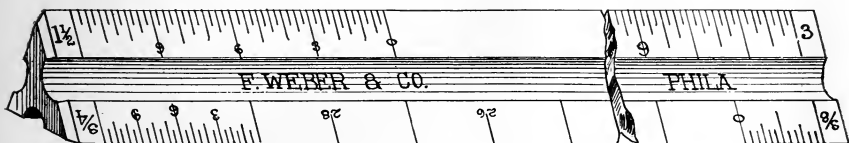

Fig. 22. Triangular Boxwood Scale.
2. SCALES OF DRAWINGS. It is not practical generally to lay out an object to actual dimensions on a sheet of paper of convenient size. Therefore, the object is drawn smaller, say $\frac{1}{2}$, $\frac{1}{4}$ or $\frac{1}{16}$ of the actual size. In order to save time, use is made of a scale, such as shown in Fig. 22, where the lengths are shown to the reduced size. The triangular scale shown has six faces and different scales are marked on each of them.
4. USE OF SCALES. It will be noted that at the end of each face of scale, Fig. 22, 1 ft. is divided into inches and fractions, and on the other side of the zero mark only feet divisions are indicated. To lay off a dimension of feet and inches, for example 2 ft. 3 in., measure from the 2 ft. mark back to 0 and then to the 3 in. mark.